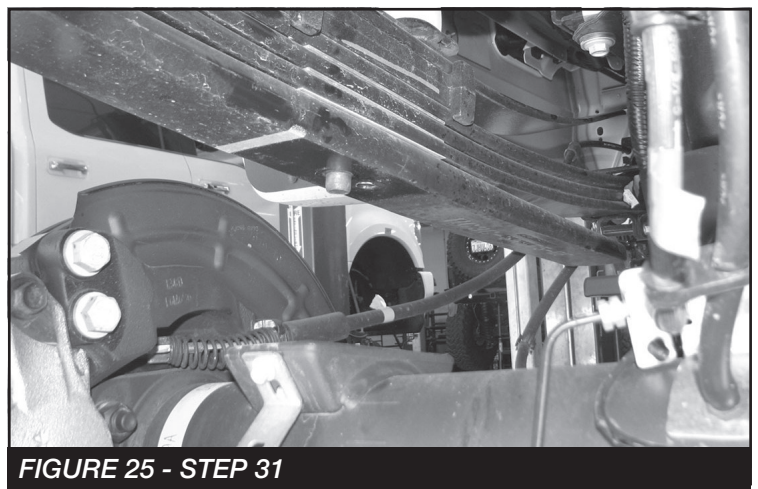

FIGURE 25 - STEP 31
31. Jack up the rear end of the vehicle and support the frame rails with jack stands. Release the parking brake at this time. Supporting the rear differential, remove the rear shock and u-bolts. Disconnect the sway bar end link from the sway bar then lower axle down and remove the blocks. Use care not to over extend the brake hose. **SEE FIGURE 25**